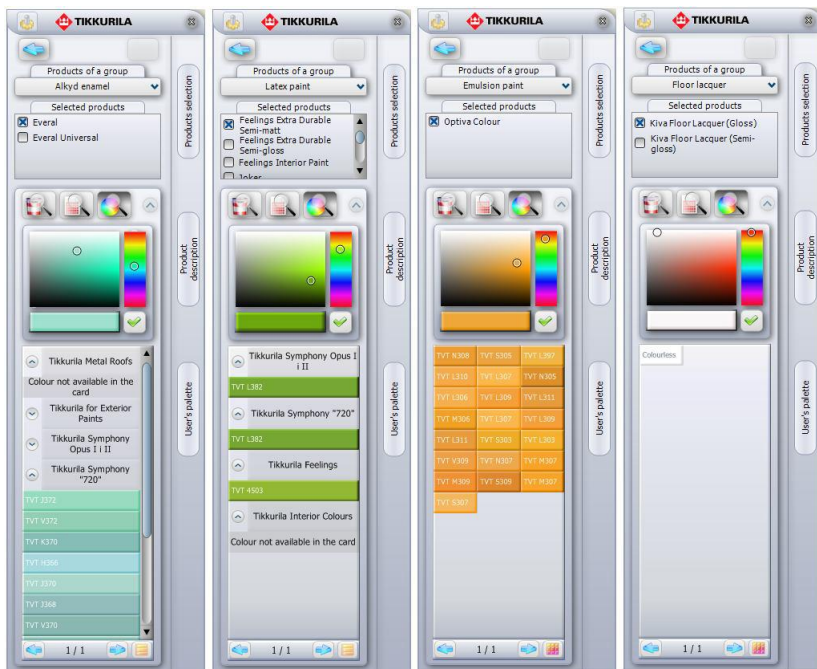

Fig. 397 – results of searching for the preferred colours for the chosen product
- after it is accomplished, the list of Cards, in which the wanted colour has been found, will appear below the palette (Fig. 397);
- an example result of this kind of selection has been illustrated on the illustration on the previous page (Fig. 397).